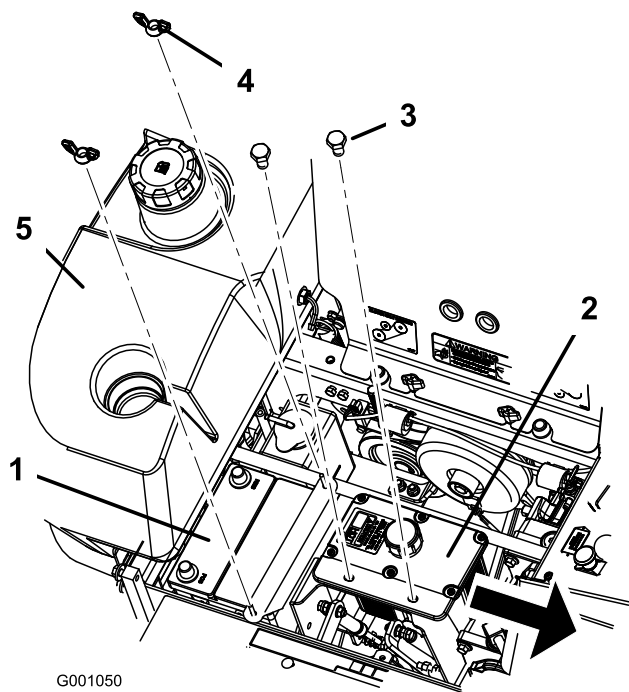

Figure 47
6. Remove both wing nuts (1/4 inch) securing the battery clamp (Figure 47).
7. Remove the two bolts holding the hydraulic tank in place (Figure 47).
6. Secure battery with J-bolts, hold down clamp and 2 washers (1/4 inch), and 2 wing nuts (1/4 inch) (Figure 47).